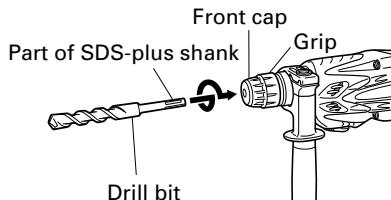
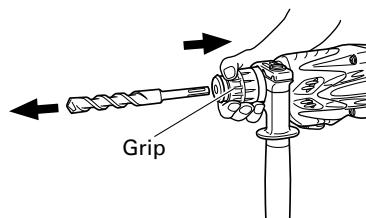

Fig. 2
Fig. 3
**6. Mounting the drill bit (Fig. 2)**
- (1) Clean the shank portion of the drill bit.
- (2) Insert the drill bit in a twisting manner into the tool holder until it latches itself. (Fig. 2)
- (3) Check the latching by pulling on the drill bit.
- (4) To remove the drill bit, fully pull the grip in the direction of the arrow and pull out the drill bit. (Fig. 3)